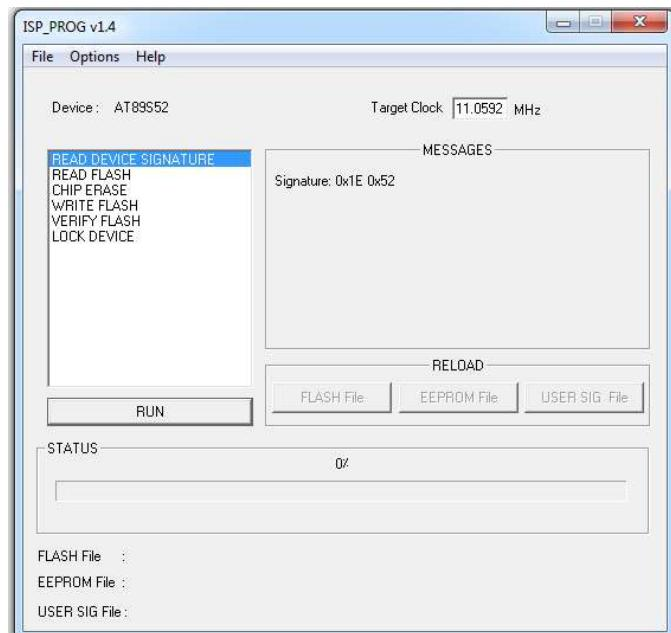

Figure 3.27: Reading Device Signature
- m. Now, repeat Step “i”. Signature: 0x1E 0x52 message will be printed as shown in Figure 3.27.